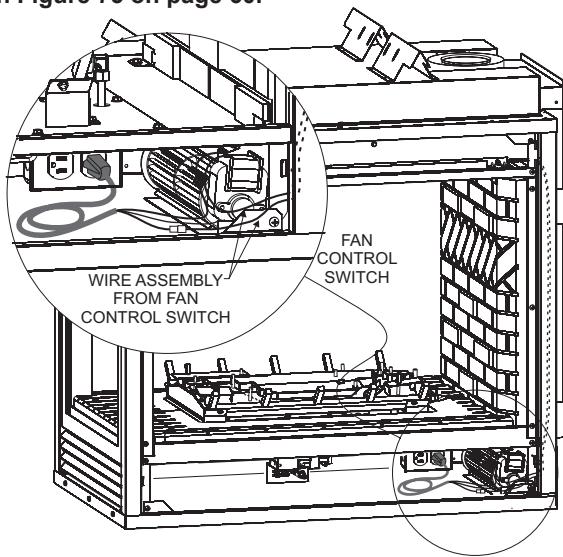
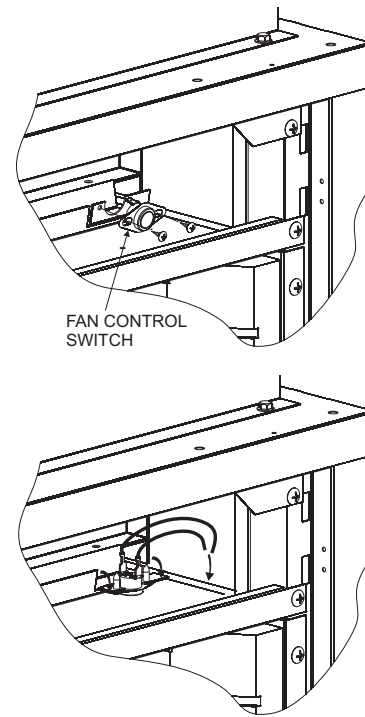

Figure 71
Figure 72
To install the blower kit or access the junction box, remove lower louver as illustrated by figure 71.
- Insert blower assembly into interior, bottom of fireplace. Note: On peninsula models, the blower must be installed at the end which has the brick panel installed. Position blower assembly so that you align the notch on back of blower assembly with the center screw on side/end panel, then push the blower assembly against fireplace outer panel. The blower wheel must be centered with the side/end wall of the fireplace. The magnets on the back and bottom of blower assembly will sufficiently hold blower assembly in place. **See Figure 71.**
- Once the blower assembly is in position, remove the upper louver as shown and locate the switch tab (end of support channel) on top of the firebox. Install the fan control switch by first removing the two pre-installed screws in the tab, then secure the fan control switch to the tab. **See Figure 72.** Once the fan control has been secured, bend the tab forward so that the face of the fan control is pushed down so it contacts the firebox top.
- Next, find the fan control wire assembly. Feed the wires over the top of the firebox. The fan control wires will slide down between the firebox and outer wrap near the blower assembly. **See Figure 71. Attach the two 3/16" wire terminals to the fan control switch as shown in Figure 72. Attach the wire terminals at the blower as shown by letters "A" and "B" in Figure 75 on page 60.**